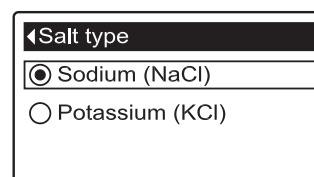

FIG. 27
5. Press the SELECT (O) button to display the Salt type menu (See Figure 27).
6. If the desired salt type already has a black dot next to it (See Figure 27), go to Step 7. Otherwise, press the softener's DOWN (▼) or UP (▲) buttons to scroll to the other salt type, then press SELECT (O) to choose it.
7. Press the SELECT (O) button. The display will go back to the Salt settings menu.